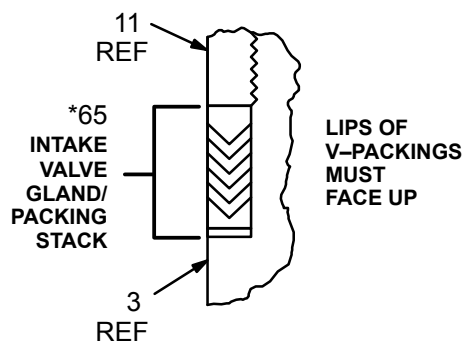

Fig 2
NOTE: Refer to Fig 2 and the parts drawing.
NOTE: Refer to Fig 2 and the parts drawing during the following procedure.
1. See Detail A of Fig 2. The gland/packing stack (64*) for the throat is preassembled. **Do not disassemble the stack.** Lubricate the gland/packing stack and install it into the outlet housing (26). *Be sure the lips of the v-packings are facing down.* Install the wiper seal (66) in the groove of the wet-cup (21) *with the lips facing down.* Loosely install the packing nut/wet-cup (21).
2. See Detail B of Fig 2. Install the two bearings (35*) and the u-cup packing (56*) on the piston (38). *Be sure the lips of the packing are facing up.* Install the small o-ring (15) in the lower cap (19) and the larger o-ring (17) on the outside of the lower cap.
3. Install the piston (38), valve plate (34), and lower cap (19) on the connecting rod (20).
4. Insert the connecting rod (20) into the displacement rod (18) so the lower cap (19) fits into the bottom of the displacement rod. Screw the top cap (33) onto the connecting rod (20) until it is tight against the top of the displacement rod (18).
5. Install one copper gasket (27*) in the outlet housing (26). Screw the priming rod (32) into the connecting rod (20) and secure with the pin (7). Push the displacement rod (18) and priming rod (32) up into the outlet housing (26) so the top of the displacement rod just protrudes from the packing nut/wet-cup (21). Lubricate the priming rod (32).
6. Install the cylinder (39) in the outlet housing (26), being careful not to scratch the polished inner surface of the cylinder.
7. See Detail C of Fig 2. Slide the intake valve gland/packing stack (65*) into the intake valve seal housing (3). **Do not disassemble the stack.** *Be sure the lips of the v-packings are facing up.* Tighten the packing nut (11). Install the valve seat (30) in the intake valve housing (28). Place the intake valve seal housing (3) on the seat (30).
8. Install two copper gaskets (27*) on the intake valve stop (29). Install the stop in the intake valve housing (28).
9. Carefully guide the intake valve housing (28) up over the priming rod (32) and install it on the cylinder (39). Insert the four tie bolts (8) through the outlet housing (26) and engage the holes in the intake valve housing. Torque the tie bolts oppositely and evenly to 60 ft-lb (82 N.m).
10. Install the plate guide (31), plate (36), priming piston (37) and nut (6) on the priming rod (32). If necessary, push down on the displacement rod (18) to provide sufficient clearance from the intake valve housing (28).
11. Tighten the packing nut/wet-cup (21) just enough to prevent leakage – no tighter.
12. Check the alignment of the displacement rod (18) by inserting a size E (0.254 in. diameter) drill shank between the packing nut/wet-cup (21) and the rod. If the drill shank cannot be passed freely around the